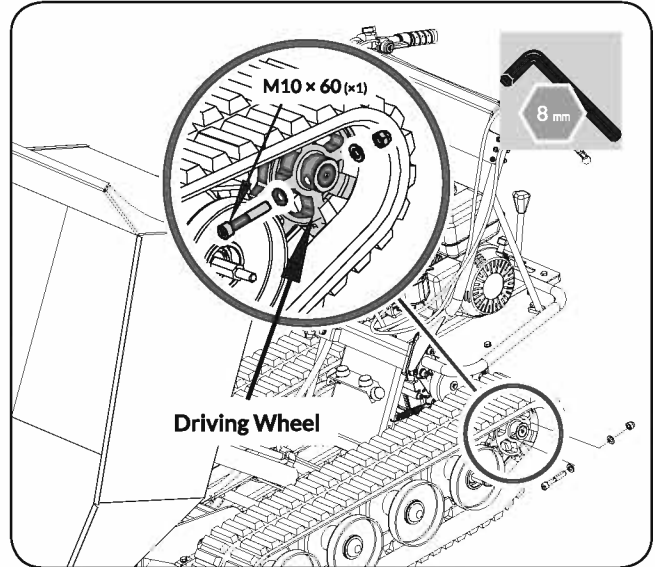

Figure 11e
- Remove the M10×60 bolt, washers and nut from the driving wheel. (See **Figure 11e**)